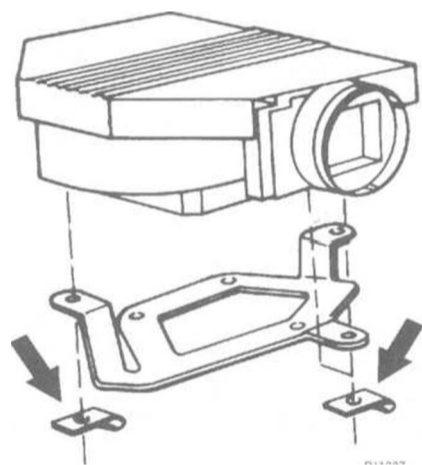

Fig. 5. Air flow sensor mounting clips on M30 engine (arrows)
2. Remove the retaining clips from the underside of the air flow sensor and remove the sensor. See Fig. 5.